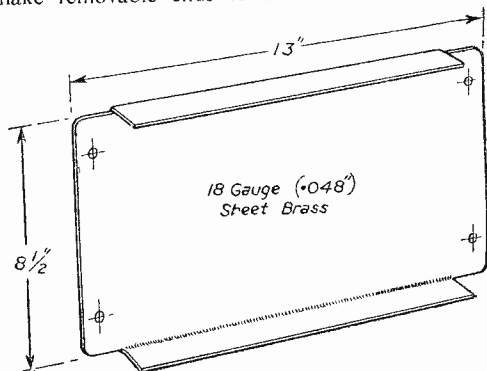

Fig. 1.—Sound and vision chassis showing edges bent down.
A good example of frame construction is shown in Fig. 1. This assembly was used for the "View Master," and it consists of  $\frac{3}{4}$  in.  $\times$   $\frac{3}{4}$  in.  $\times$   $\frac{1}{8}$  in. angle uprights, tied together securely both top and bottom by removable end pieces.
Fig. 1 shows the sound and vision chassis, made from not less than 18 g. (048) thick brass sheet; the edges are shown bent over to give added strength. A good point is to rivet, or bolt, in various positions on the chassis, copper soldering tags, as it is easier to solder a connection to a tag than direct on to the chassis. This prevents dry joints. Soldering tags must always be securely fixed to aluminium chassis.